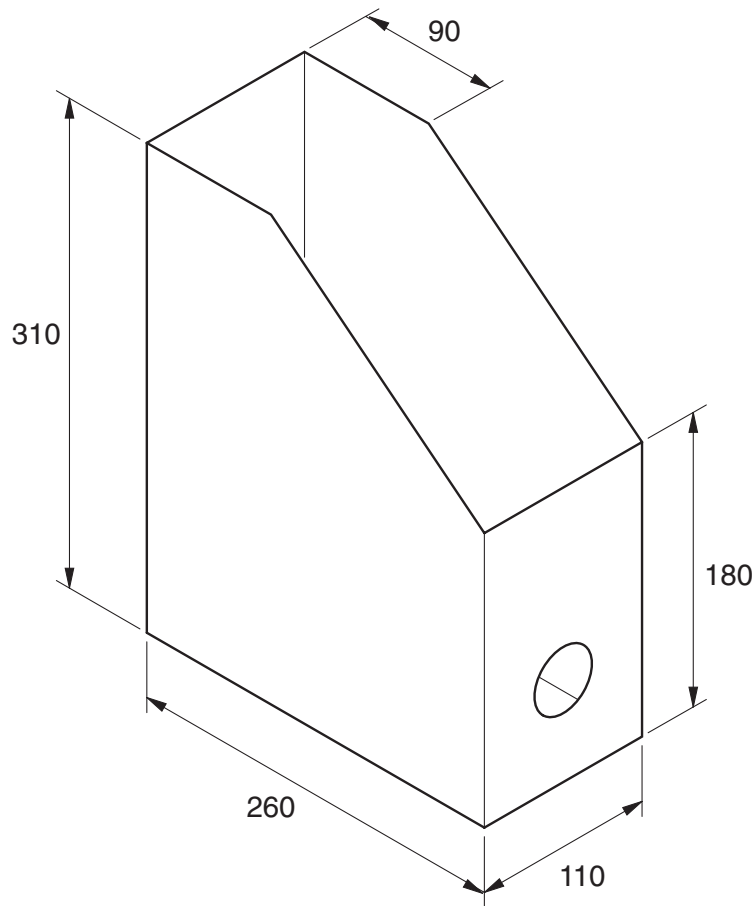

Fig. 3
- 3 Fig. 3 shows a magazine storage box which is to be made in a school workshop.